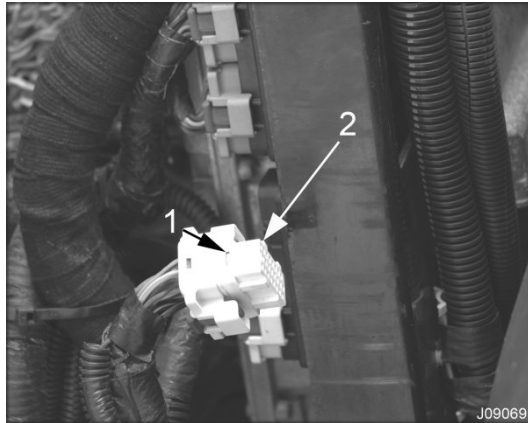

Figure 8 X-3 Connector Removed
14. Using the flat blade of a screwdriver, push down on the locking tab and unlock the connector (Figure 8).